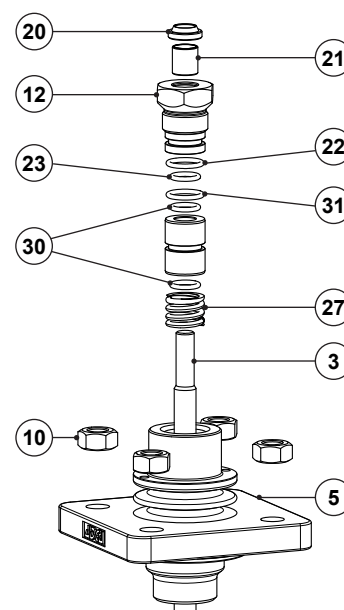

Fig. 10 - EPDM (EP1)
1. Unscrew the lock nut (13) from the stem (7).
2. Unscrew the gland nut (12) and remove it carefully together with the O-rings (22, 23).
3. Carefully pull the plug (3) with plug stem (7) out of the bonnet (5) through its bottom. Inspect the stem surface and plug sealing surface, replacing if necessary.
4. Pull out the O-ring guide (29) and spring (27) from the packing box using a suitable tool.
5. Clean the packing box and slide the stem (7) into the bonnet (5) once again.
6. Remove the O-rings (30, 31) from the O-ring guide (29) with a suitable tool and replace them.
8. Insert the spring (27) on the packing box and carefully slide in the O-ring guide (29) according to Fig. 10.
9. Renew the scraper ring (20), plain bearing (21) and